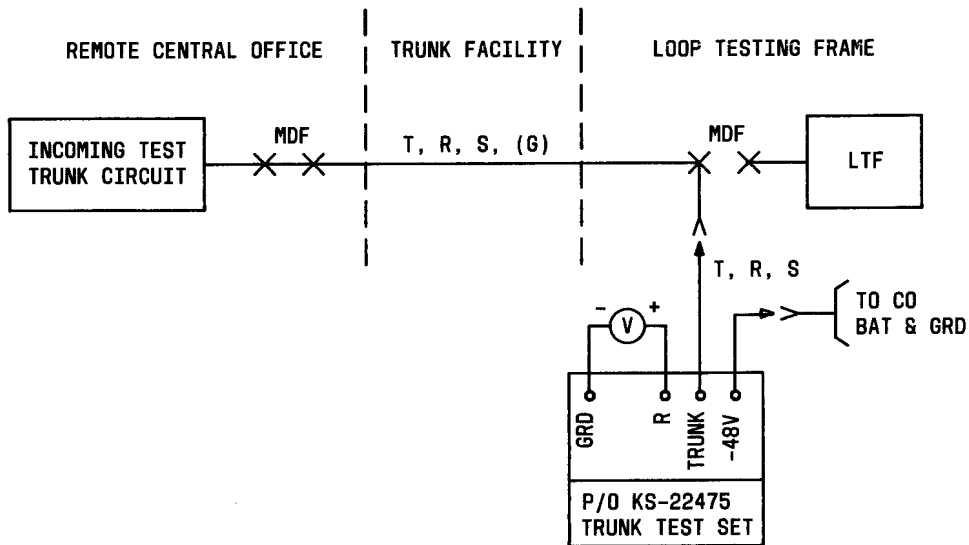

Fig. 14—Open Circuit AC FEMF (R-G)—Connections
F. Open Circuit AC FEMF (all test trunks) (Fig. 14, 15, and 16).